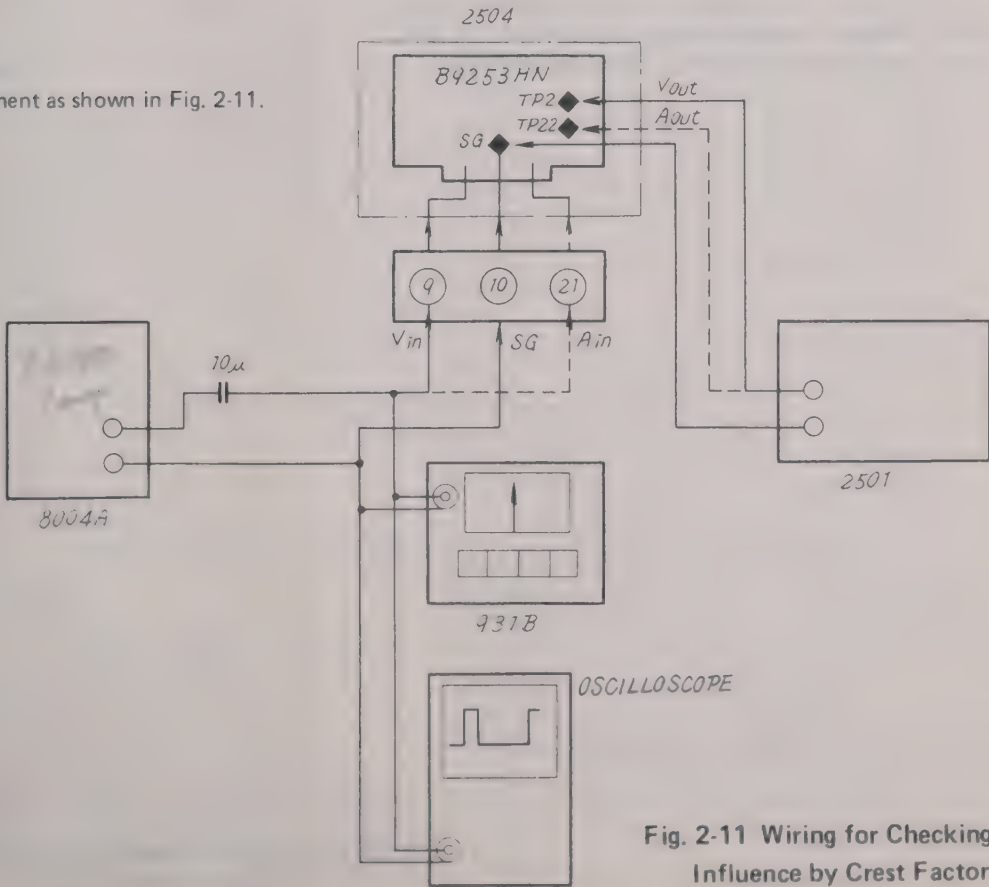

Fig. 2-11 Wiring for Checking
1. Connect each instrument as shown in Fig. 2-11.